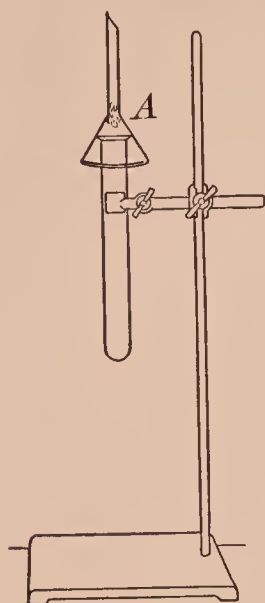

FIG. 73. — Apparatus for preparing iodine
**APPARATUS.** — As in Fig. 73.
Grind together in a mortar about 3 gm. of potassium iodide and 5 gm. of manganese dioxide. Put the mixture in a test tube, add about 3 cc. of water, 5 cc. of concentrated sulfuric acid, and mix well. Clamp the test tube vertically to an iron stand (Fig. 73). Close the inner end (*A* in Fig. 73) of the stem of the funnel with a small plug of cotton. Hold, or place, the funnel over the mouth of the test tube, and heat the test tube gently. The vapor of the liberated iodine will fill the test tube, and crystals will form in the upper part of the test tube and in the funnel. Continue to heat until enough iodine for several exercises collects in the funnel. Scrape the crystals into a dish.